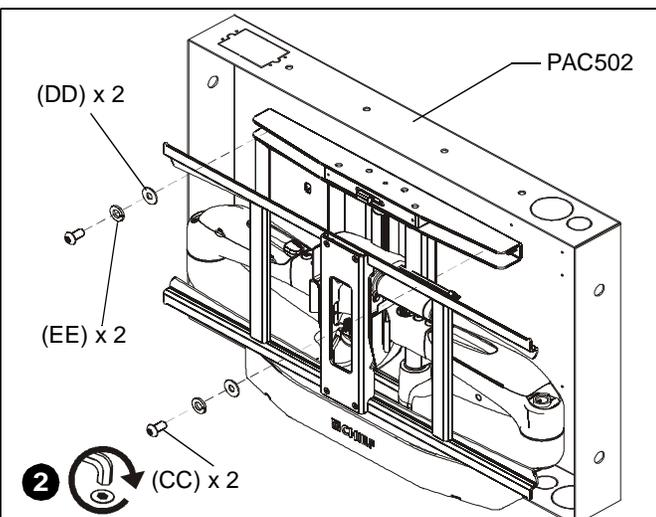

Figure 15
2. Using two 5/16-18 x 5/8" button head cap screws (CC), two 5/16" split lock washers (EE), and two 1/4" flat washers (DD) loosely secure top of PXR in PAC502. Secure screws at least three turns into PAC502. (See Figure 15)